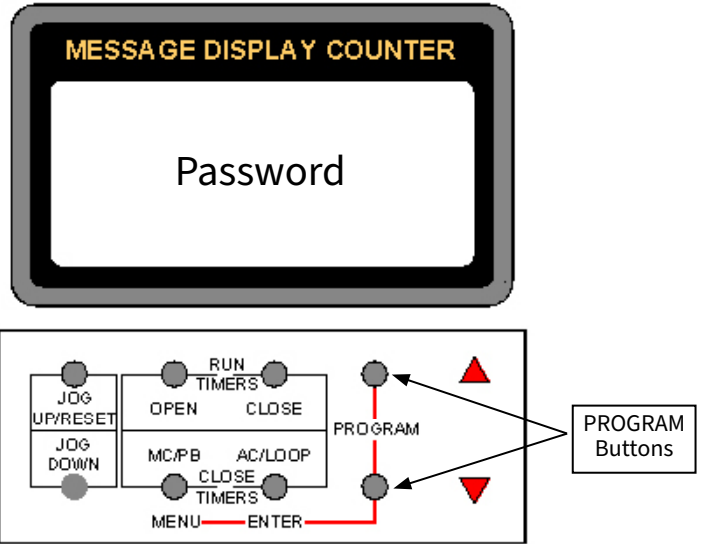

Figure 38: Controller Program Mode
2. Press and hold both PROGRAM buttons until display changes to password. After display changes, release buttons. See Figure 38.